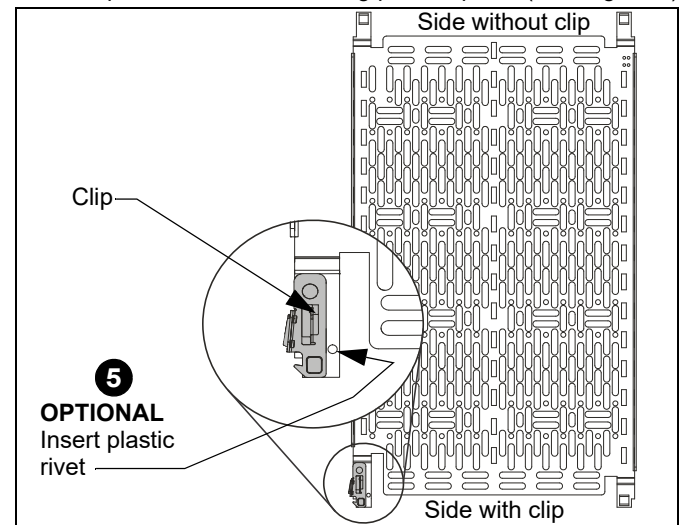

Figure 7
4. Return mounting plate to storage panel by installing the side without the clip into the panel first, followed by the side with the clip until it clicks into place. (See Figure 7)
5. **OPTIONAL:** If desired, install plastic rivet (F) into hole next to clip to secure the mounting plate in place. (See Figure 7)